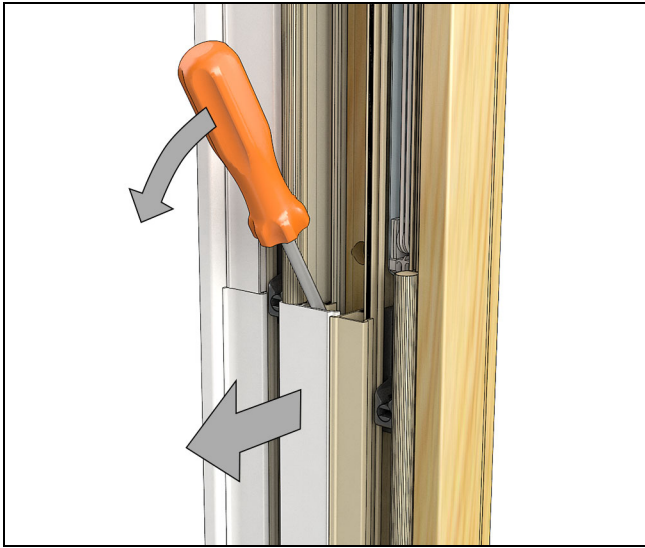

Figure 21
4. Using screwdriver, pry behind aluminum/vinyl mid cover assembly to release it from frame. See Figure 21.